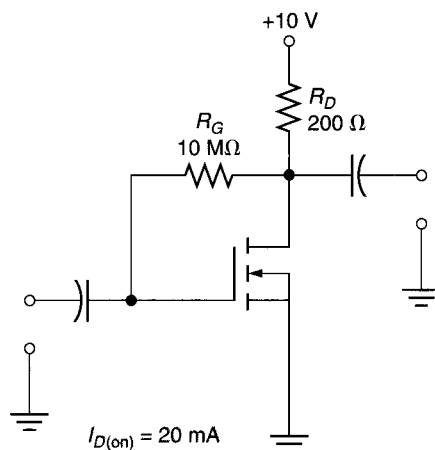

FIGURE 13.33
15. Calculate the values of  $I_D$  and  $V_{DS}$  for the amplifier in Figure 13.33.